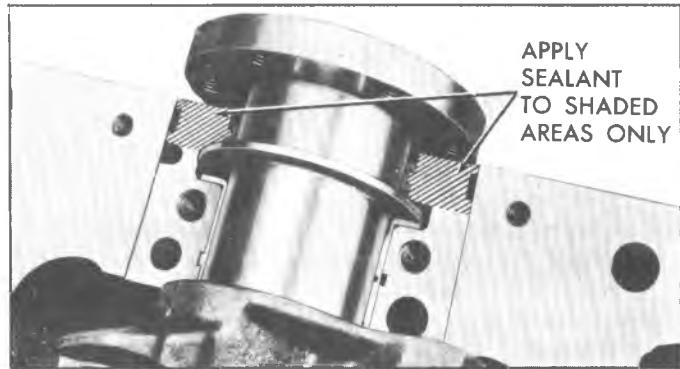

Fig. 15V—Sealing Bearing Cap
12. Install bearing cap to case with sealant applied to the cap-to-case interface being careful to keep sealant off the seal split line (fig. 15V).